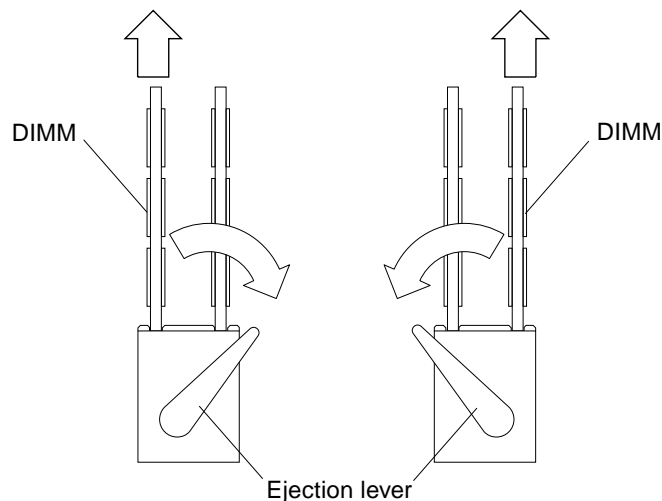

FIGURE 10-5 DIMM Ejection Lever
6. Push the ejection lever away from the DIMM (FIGURE 10-5).